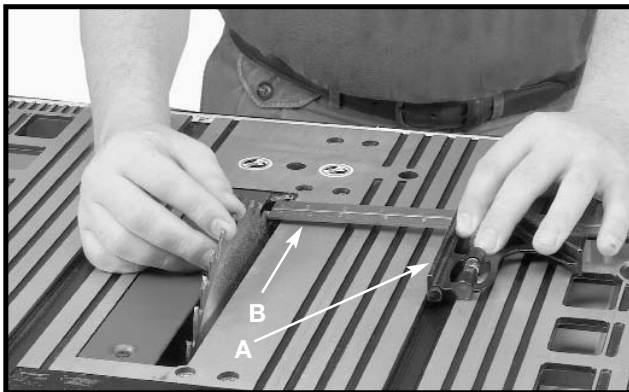
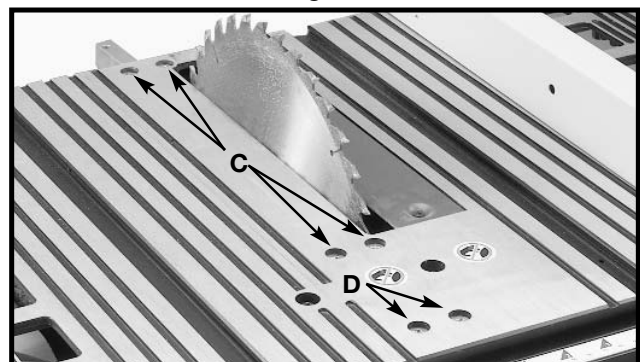

Fig. 35
Fig. 37
2. The pointer indicates the distance from the fence to the saw blade. If an adjustment is required, loosen the screw (C) Fig. 37 and adjust.
3. Use a combination square (A) Fig. 35 against the miter gauge slot and adjust the blade (B) of the square until it touches the marked tooth.
5. If the front and back measurements (Figs. 35 and 36) are not identical, you can adjust the blade. Start by loosening the nuts below the four screws (C) Fig. 37 on the table. Then loosen the screws (C). Carefully move the saw blade until the blade is parallel to the miter gauge slot. When done, tighten four nuts under the table and the four screws (C) Fig. 37 securely.
**NOTE:** If sufficient adjustment cannot be achieved by loosening the screws (C) Fig. 37, loosen the screw (D) Fig. 37 necessary to make the adjustment.